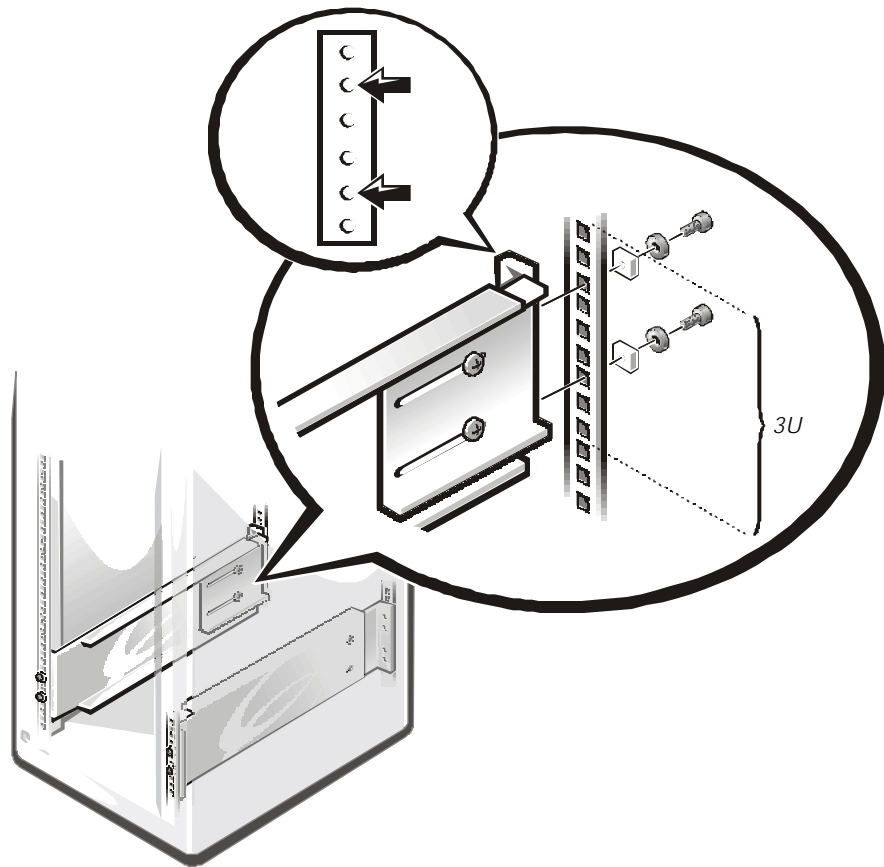

Figure 3. Attaching the Support Rail Assembly to the Rear Vertical Rail of the Rack
5. Thread two 10-32 screws with a flat washer and a square alignment washer and push them through the rear vertical rail of the rack and into the two holes of the adjustable rail mounting flange (see Figure 3). Tighten the two screws.